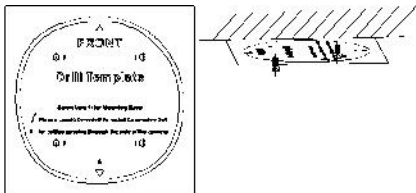

Figure 2-39 Attach the Drill Template
3. Insert two PM4X1Q screws into the ceiling, as shown in Figure 2-39.